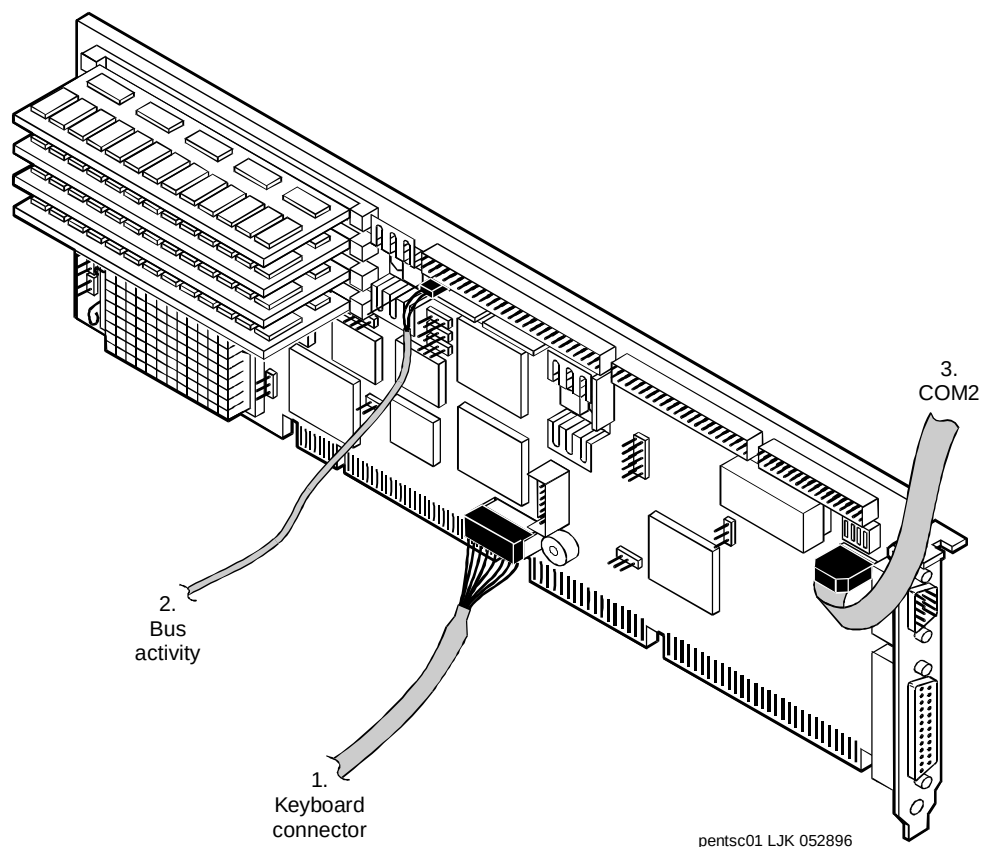

Figure 5-69. Attaching Cables to the P5 120 MHz CPU Circuit Card, Part 1
5. Attach the keyboard cable to the keyboard pins on the P5 120 MHz CPU circuit card (Figure 5-69).
7. Attach the disk activity cable to the P5 120 MHz CPU circuit card with the red lead toward the back of the MAP/100 (Figure 5-69).
8. Install the rear COM2 cable to the P5 120 MHz CPU circuit card (Figure 5-69).
9. Dress this cable to the side (Figure 5-69).